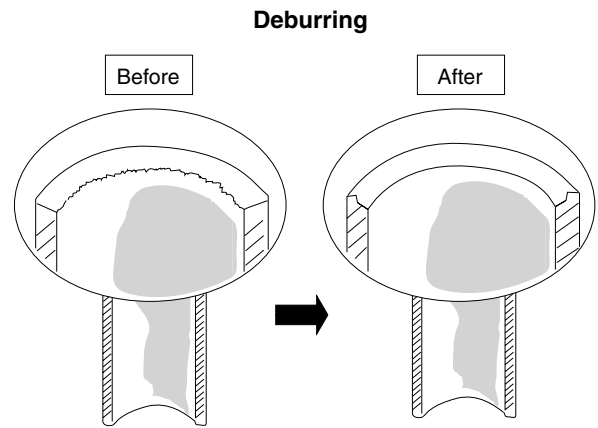

Fig. 5-1
- (1) Cut the copper tube to the required length with a tube cutter. It is recommended to cut approx. 30 – 50 cm longer than the tubing length you estimate.
- (2) Remove burrs at the end of the copper tube with a tube reamer or file. This process is important and should be done carefully to make a good flare. (Fig. 5-1)